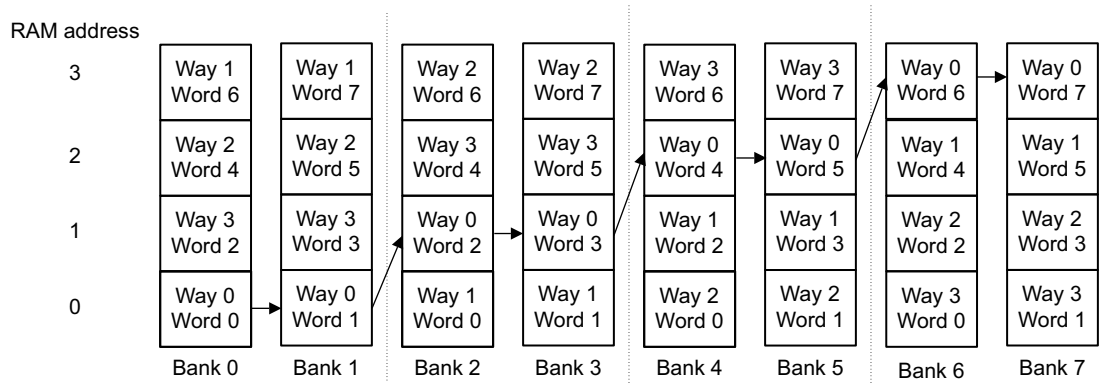

Figure 8-4 Sequential read operation performed with one RAM access
- Select the appropriate bank RAM for sequential read operations. Figure 8-4 on page 8-28 shows this.
Figure 8-4 shows the appropriate bank RAM being selected for a sequential read operation.